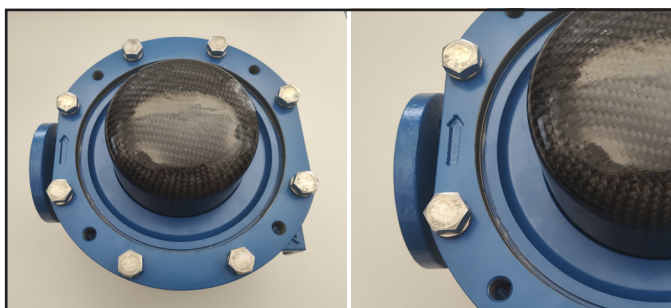
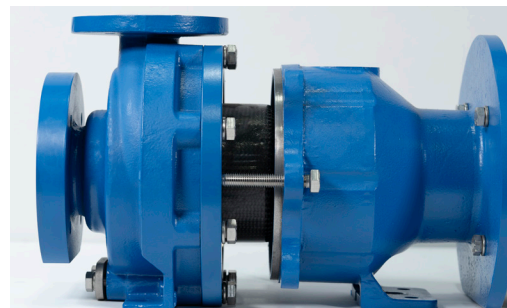

figure 60
figure 61
6. Place the rounded edge of the clamp ring (Item 10) over the barrier assembly and position on the rear face of the casing. The flat and rotation arrow should be at the discharge side of the housing. Attach the clamp ring with (8) M14 hex headcap screws and washers (item 18 & 19). Tighten evenly around circumference. Torque the screws to 75 ft-lbs (102 N-m) unlubricated. See figure 60.
7. Using a 22mm socket, turn the (2) jackscrews (item 29) clockwise until the heads touch the motor adapter (item 12).
8. Install vapor protection o-ring (item 9) into groove of clamp ring.
9. Carefully slide the wet end towards the motor adapter until it touches the jackscrews (there will be some magnetic attraction). See figure 61.
11. Bolt the wet end to the motor adapter by re-installing the (4) M14 hex head cap screws and washers (item 18 & 19) and torque evenly to 75 ft-lbs (102 N-m).